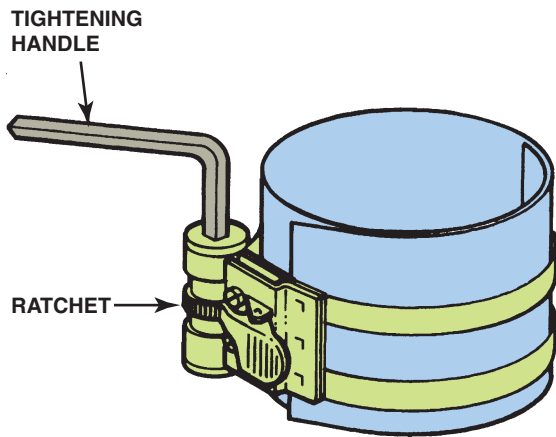

FIGURE 34-34 This style of ring compressor uses a ratchet to contract the spring band and compress the rings into their grooves.
- STEP 5** The **piston ring compressor** is then put on the piston to hold the rings in their grooves. ● SEE FIGURES 34-34 AND 34-35.